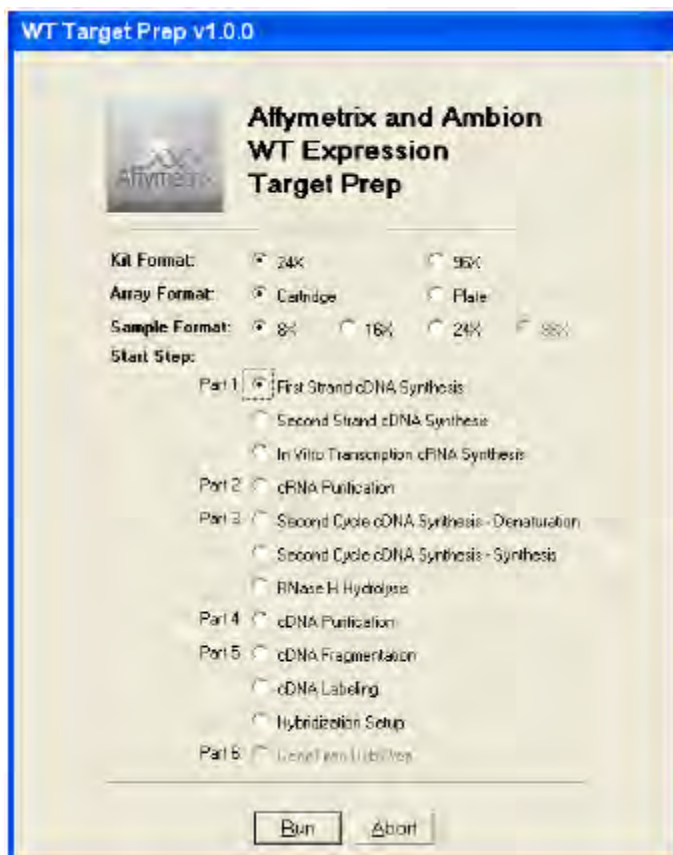

Figure 16 Run settings options.
- The **Run Setting Options** are displayed (Figure 16).